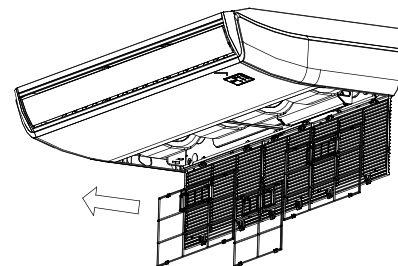

Fig.6-3
- Directly pull out the air filter from the air inlet as indicated in Fig. 6-3.
- Re-install the air filter in the reverse order of Fig. 6-3.